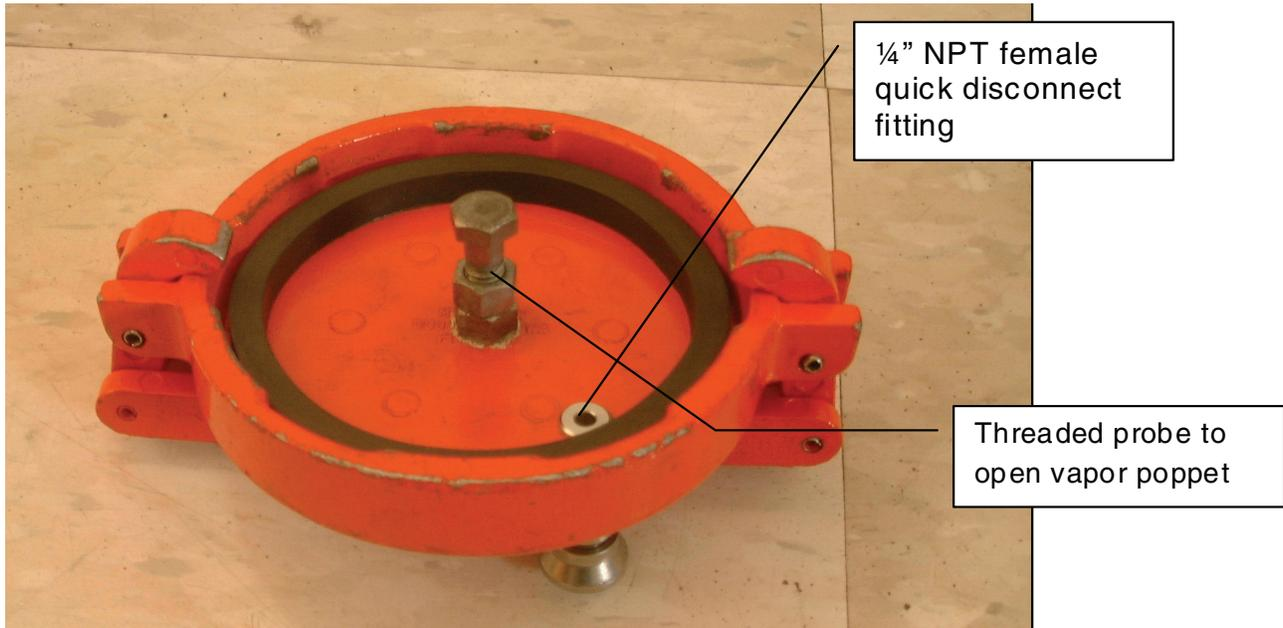
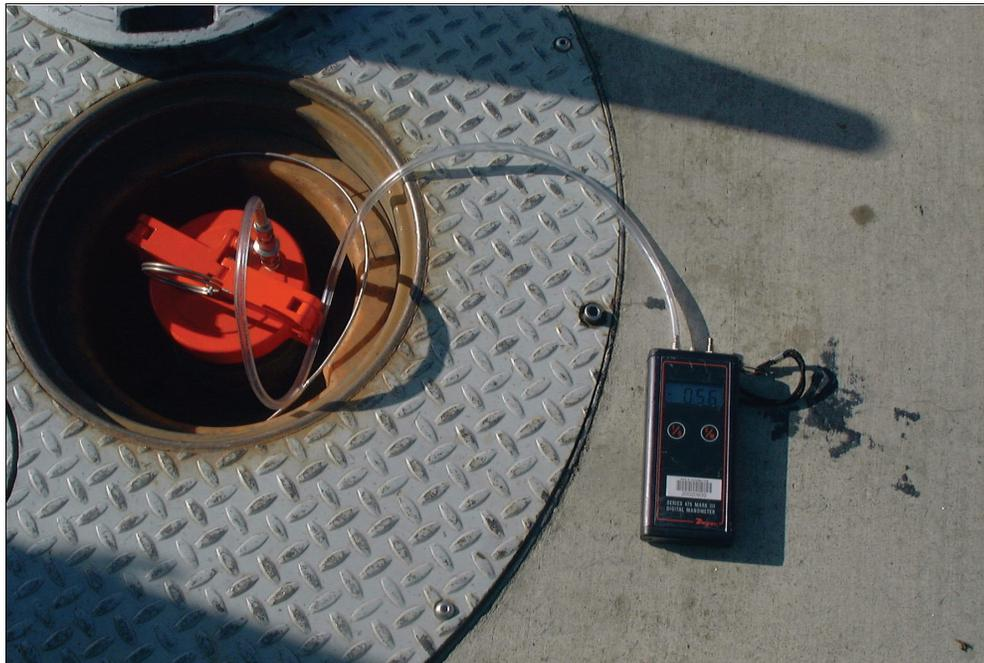

Figure 22. Typical modified vapor adaptor dust cap (bottom view)
Figure 23. Typical field installation of UST Pressure Measurement Assembly
The pressure of the USTs is determined at the Phase I vapor recovery adaptor (dry break assembly) with a vapor coupler test assembly as shown in Figures 2 and 3 of TP-201.3 (Determination of 2 Inch WC Static Pressure Performance of Vapor Recovery Systems of Dispensing Facilities) or a modified dust cap test assembly as shown in Figure 22 and Figure 23. The test assembly is equipped with a center probe, which opens the dry break, and a quick connect fitting that is connected to an electronic pressure measuring device or digital manometer. The test assembly should open the dry break with minimal venting of the USTs. This test can be performed while product is being dispensed into motor vehicles.
- a. Install a probe in the center of the dust cap as shown in Figure 22 (one method is to tap and thread probe). The probe shall be of sufficient length to open approximately $\frac{1}{2}$ inch of the dry break while allowing the cap to maintain a leak tight seal on the adaptor.
- b. Install female quick connect fitting on the top of the dust cap, offset from the center probe as shown in Figure 22. A Swagelok, part number SS-QC4-B-4-PM, quick connect fitting or equivalent can be used.
- c. Use "Tygon tubing" or equivalent to connect the manometer to the dust cap (Figure 23). Install a male quick connect fitting (Swagelok part number SS QC4-5-400 or equivalent can be used) on one end of a ferrule stainless steel tube (or equivalent material). Connect one end of the "Tygon tubing" to the stainless steel tube and connect the other end to the digital manometer (Figure 23).
1. Attach the dust cap or vapor coupler test assembly to the vapor adaptor (Figure 23).